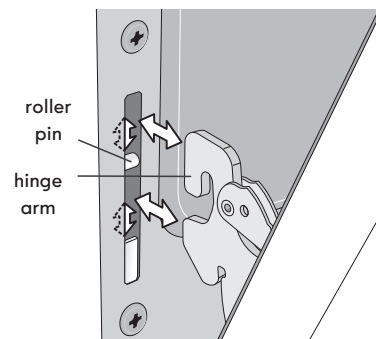

Figure 19: Hinge pin locations
5. With the oven door in the broil stop position, lift the oven door hinge arms over the roller pins located on each side of the oven frame (Figure 19).
2. Holding the oven door at the same angle as the removal position, seat the hook of the hinge arm over the roller pins located on each side of the oven door frame (Figure 19). The hook of the hinge arms must be fully seated onto the roller pins.